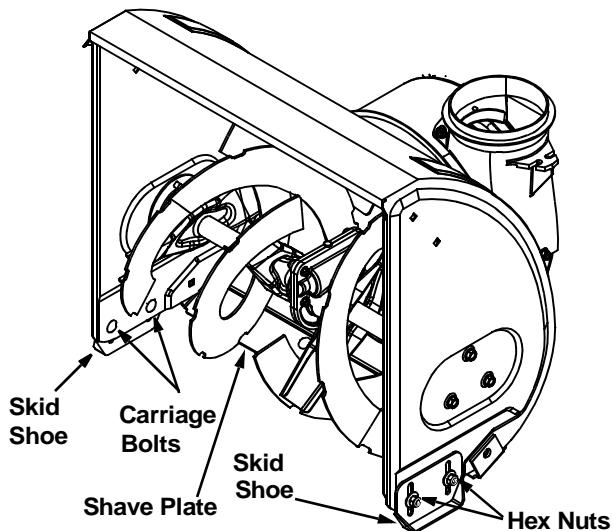

Figure 24
- To remove skid shoes, remove the four carriage bolts, cupped washers and hex nuts which attach them to the snow thrower. Reassemble new skid shoes with the four carriage bolts, cupped washers (cupped side goes against skid shoes) and hex nuts. See Figure 24.
- To remove shave plate, remove the carriage bolts, cupped washers and hex nuts which attach it to the snow thrower housing. See Figure 24. Reassemble new shave plate, making sure heads of carriage bolts are to the inside of housing. Tighten securely.